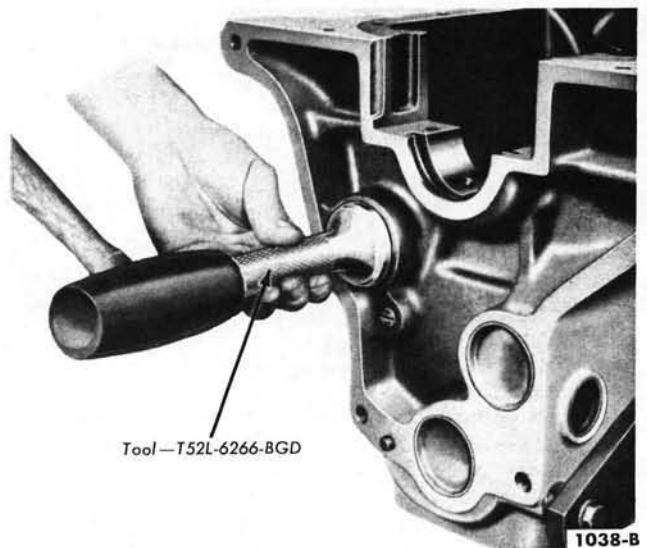

FIG. 33—Camshaft Rear Bearing Bore Plug Installation
3. Clean the camshaft rear bearing bore plug recess thoroughly. Coat the flange of a new plug with water resistant sealer and install it with the flange facing out (Fig. 33). Drive the plug in until the flange is flush or slightly below the casting surface. Install the camshaft and related parts. Install the engine in the chassis.